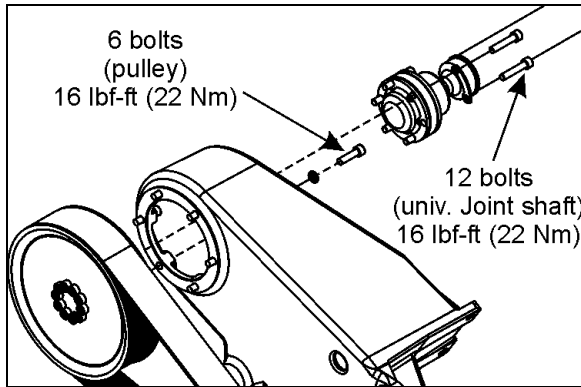

FIGURE 23: TIGHTENING SPECIFICATION 05123A
2. Dismount the drive pulley. Gain access to the 6 mounting bolts from behind the pulley, through the opening in the cast aluminum support (Fig. 23).
3. Unscrew and remove the universal joint shaft mounting bolts (6) at the right angle gearbox.